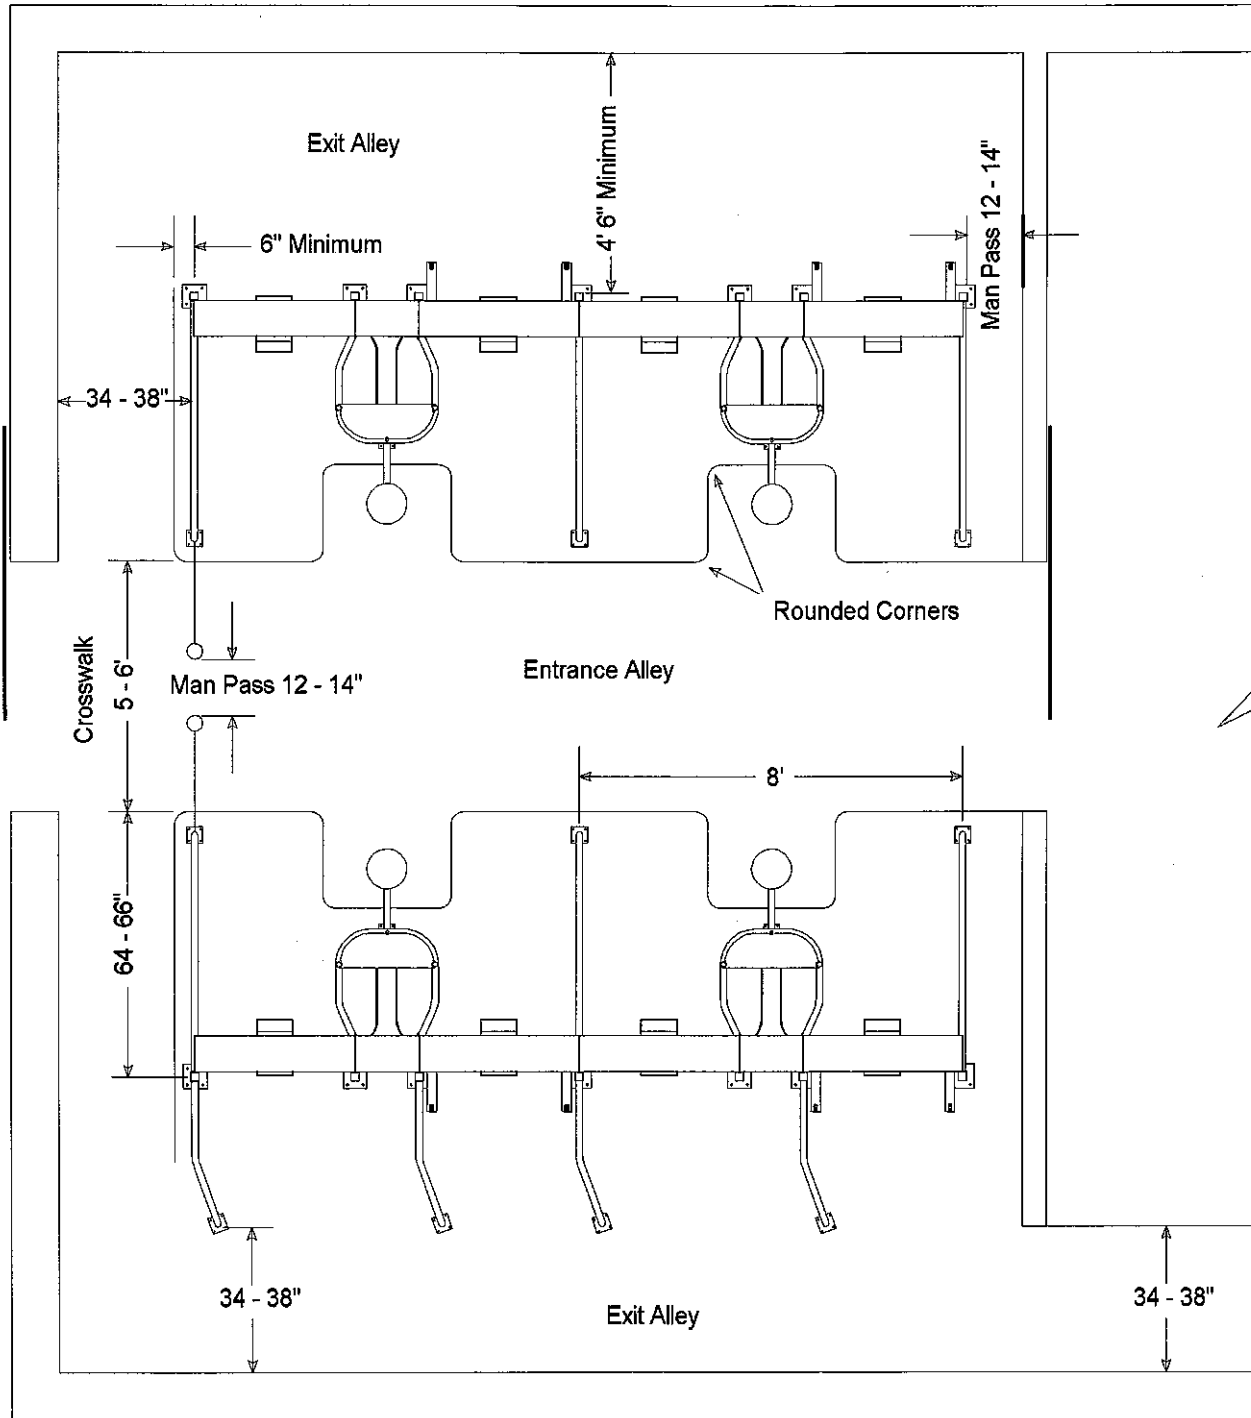

Figure 1.
**Note:** The width of each platform should be wider than four feet per stall. If you have a row of four stalls we recommend a minimum platform width of 17 feet. The reason for the extra one foot((4 stalls x 4') + 1'=17') is that six inches of concrete is recommended for an adequate amount of concrete so that the anchors do not break away. Also, the anchoring pads on the uprights extend out three inches from the center of each upright(see figure 1.)
Rounding the corners on the edge of the platform and inside the milker's cubicle will help in preventing possible injury and build-up of debris in the inside corners. See figure 1.
Recommended dimensions for exit alleys vary depending upon the amount of room available, the routing of the cow traffic and whether or not the optional exit dividers will be used. For recommended alley sizes see figure 1 for examples.
On the following pages are three examples of a parlor layout, each with a different configuration of stalls. Keep in mind that all barns are unique and that the following examples may not be appropriate for some barns. Refer to the previous pages to help you decide how one of these examples or some other layout would work in your facility. For dimensions of stalls, walkways, etc. see figure 1, page 3.